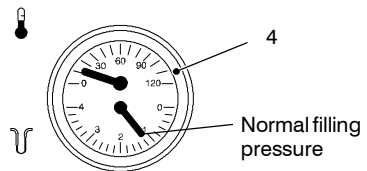

Fig. 2.2
Ensure that the c.h. circuit is regularly filled with water (even if the boiler is only used for d.h.w. supply) checking that the pressure indicated on the temperature and pressure gauge 4 is not lower than that shown in Fig. 2.2.
If the pressure reading on the pressure gauge is below that shown in Fig. 2.2, then the system will require topping up. A filling loop is normally provided by the Installer for this purpose.
- 2 Open the valves of the filling loop and watch the gauge until it reaches normal filling pressure as shown in Fig. 2.2.
you should check that the pressure on the temperature and pressure gauge (Fig. 2.2 on page 4) is not below the correct setting.